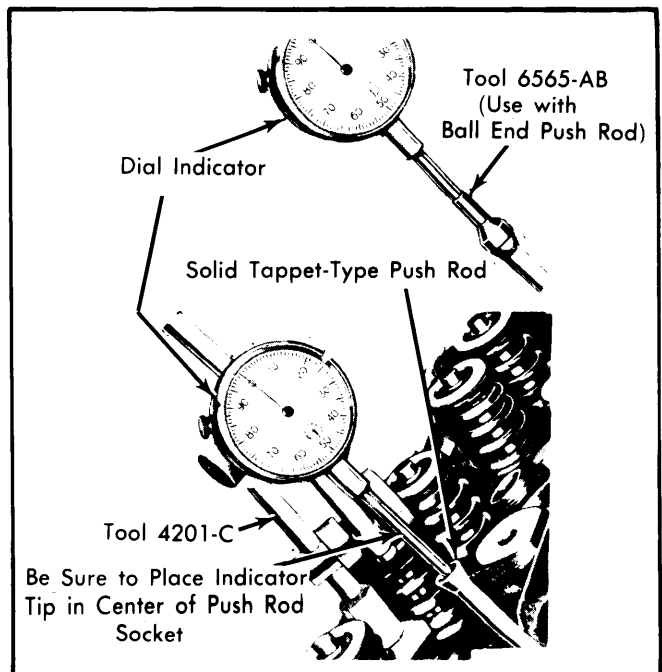

Fig. 16 Checking Camshaft Lobe Lift
1) Remove all rocker arms. Make sure each push rod is in valve lifter socket. Install dial indicator allowing ball socket adapter of dial indicator to rest on end of push rod in same plane as push rod movement. See Fig. 16.